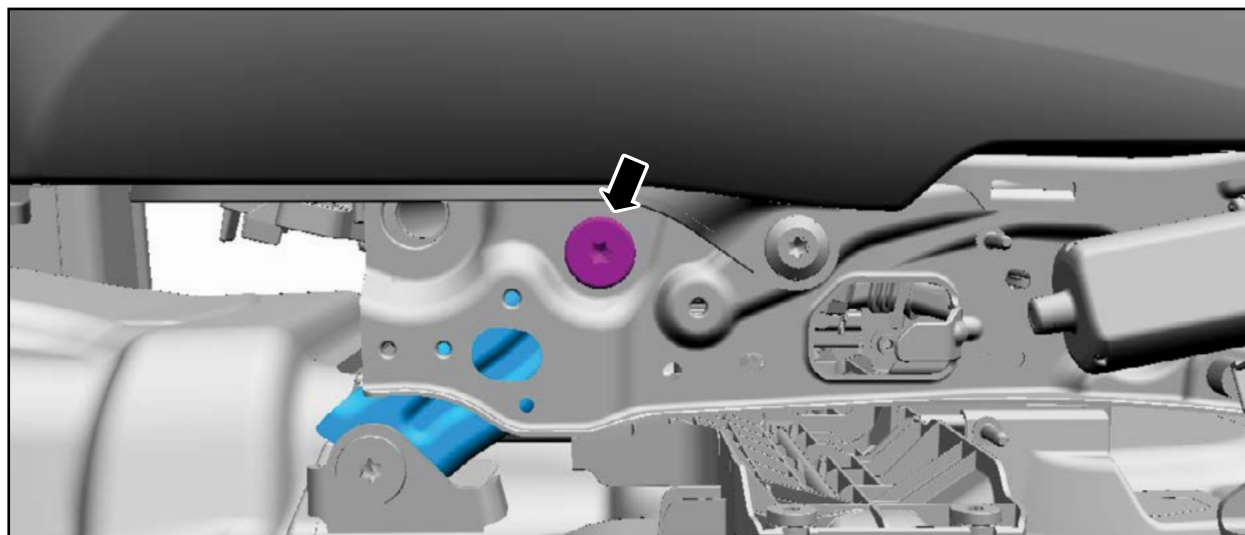

FIGURE 4
- Remove the seat track pivot link bolt. See Figure 4.